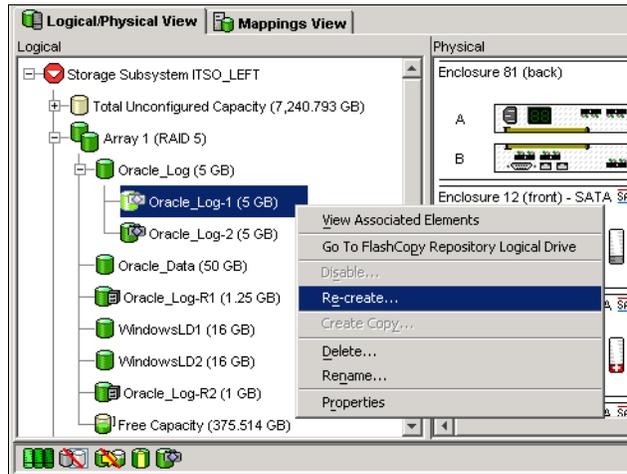

Figure 7-30 FlashCopy logical drive: Recreate
1. Select the FlashCopy logical drive. Right-click and select **Re-Create**, as shown in Figure 7-30.